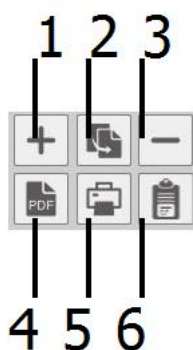

Fig. 14.10: Push buttons in the *Reporting* Menu
- Click the copy button at the lower end of the Reporting menu (see Fig. 14.4 or ② in Fig. 14.10)
- The buttons on the lower end of the *Reporting* Menu (see Fig. 14.10) have the following functionalities: